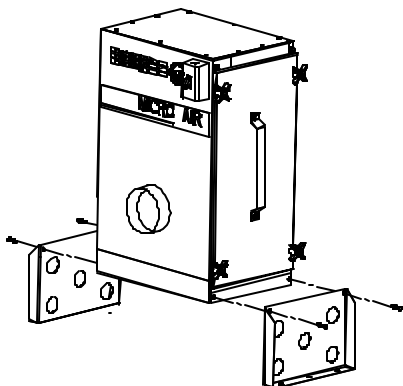

FIG. 1
2. Use the bolts removed in Step 1 to secure Machine Mounting Brackets to unit as shown in FIG. 1.